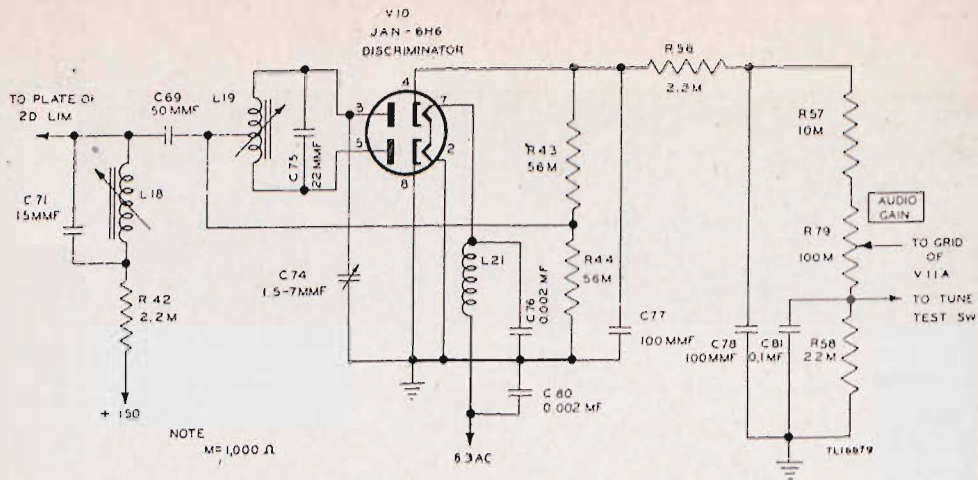

Figure 100. Radio Receiver R-48/TRC-8 (XC-3), functional diagram of discriminator stage.
a. The function of the discriminator stage V10 (fig. 100) is similar to that of the demodulator stage of the conventional superheterodyne receiver. It removes the audio frequency component from the modulated r-f signal. The audio component in an f-m signal is represented by shifts or deviations in frequency, and the signal smoothed out by the limiter stages is of constant amplitude with no voltage variations due to modulation. The function of the discriminator, therefore, is to convert these frequency variations into voltage or amplitude variations so that the signal will operate a loudspeaker.